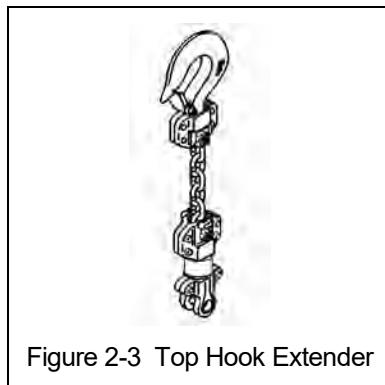

Figure 2-3 Top Hook Extender
- The Top Hook Extender is designed to move the hoist body away from the attachment point. It can be used to place the hoist lower in vertical application or increase the hoist reach in horizontal applications. Refer to Figure 2-3.